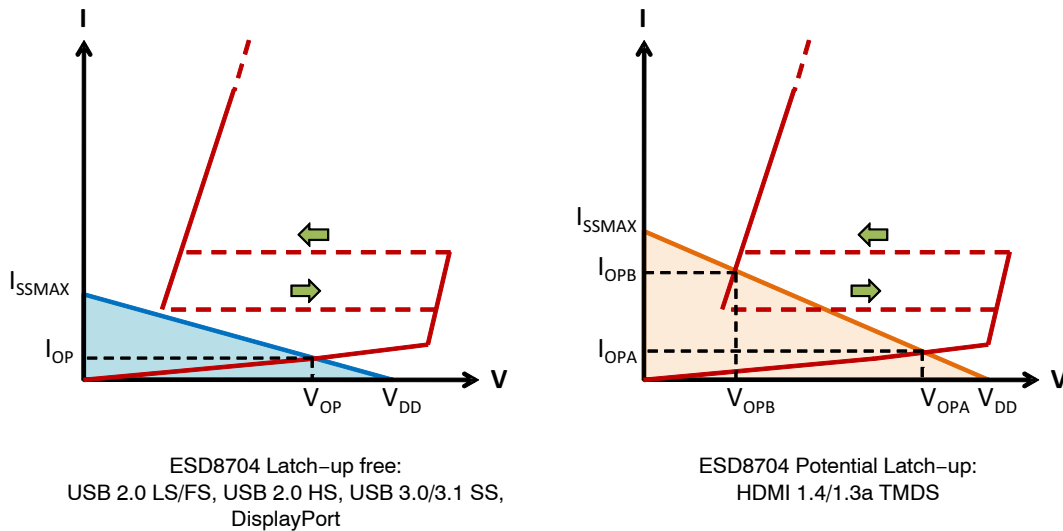

**Figure 15. USB 3.0/3.1 Connection Diagram**
- ◆ In USB 3.0 applications, the ESD protection device should be placed between the AC coupling capacitors and the I/O connector on the TX differential lanes as shown in Figure 15. In this configuration, no DC current can flow through the ESD protection device preventing any potential